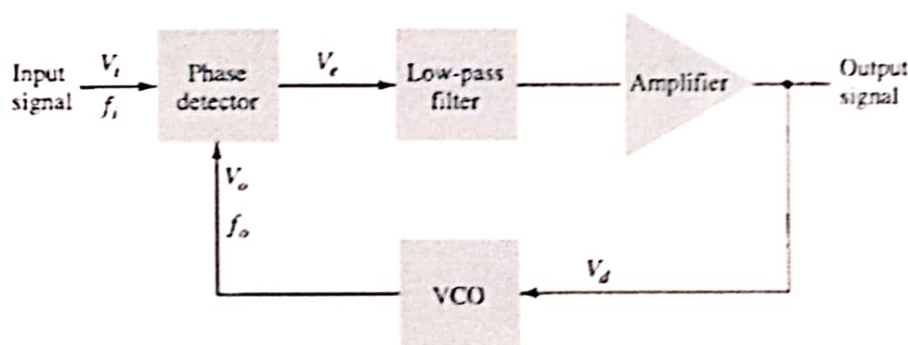

Figure 2: Phase-Locked Loop (PLL)
- a) Briefly discuss the operation of the phase-locked loop (PLL) shown in Figure 2.